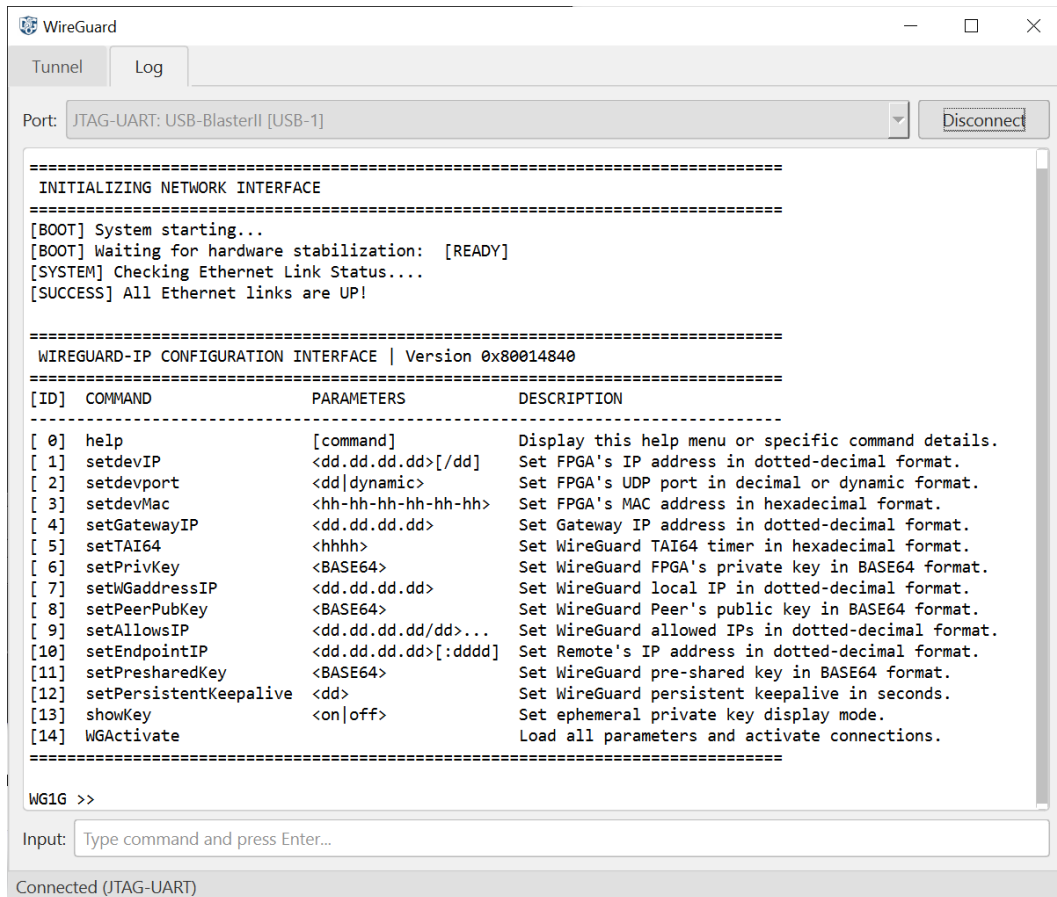

Figure 17 GUI log tab
- 3) Click “Connect”. The status bar at the bottom left of the window will display “Connected” when the connection is established, as shown in Figure 17.